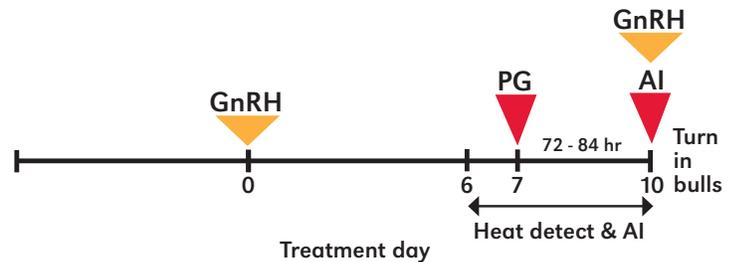

Figure 14. Select Synch with HD and TAI.
**Select Synch with HD and TAI** (Figure 14). With this protocol, all cows are given an injection of GnRH on day 0. Beginning on day 6 and continuing through day 10, cows are observed for estrus and are inseminated 12 hours after standing estrus. On day 7, cows that have not yet been inseminated are injected with prostaglandin.